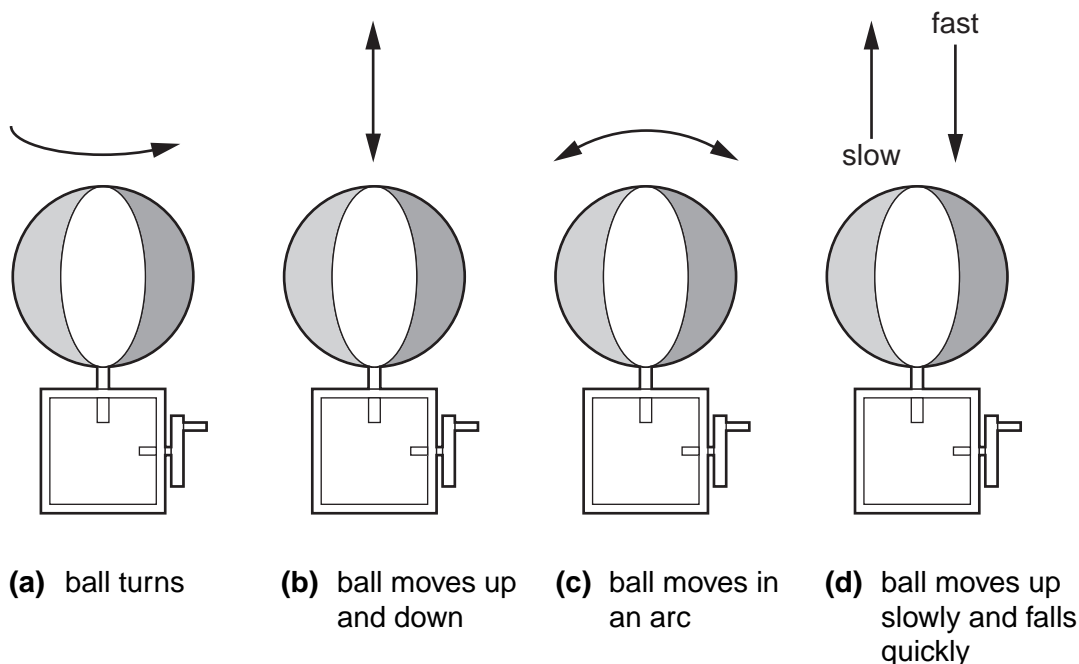

Fig. 3
- 4 Fig. 3 shows designs of simple mechanical toys operated by turning the handle on the side